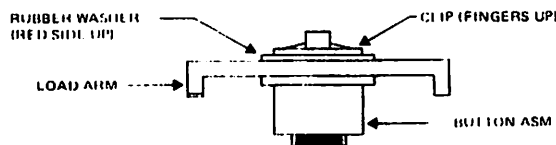

FIGURE 12
- d. Place the new button on the arm. On the back of the arm place the rubber washer (red side up). Holding the button, push the clip over the plastic stud until it is tight against the rubber washer. Reference Figure 12.